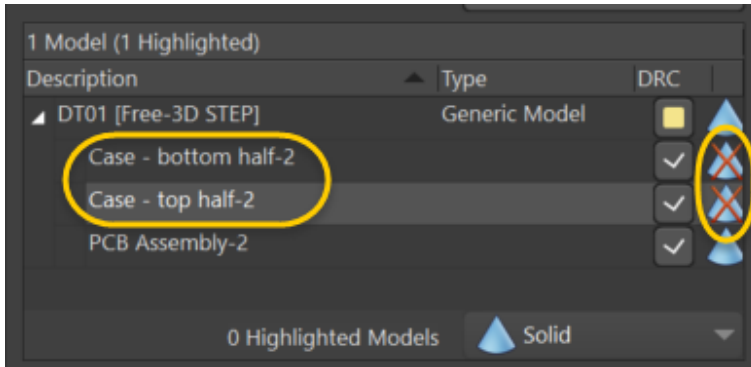

Figure 5. PCB panel with 3D Models
18. To create our board shape, we will need to select one of the faces of the enclosure. To help us with this, we will hide the *Case - bottom half-2* and *Case - top half-2* by clicking on the blue cones until a red X appears as shown in Figure 5.